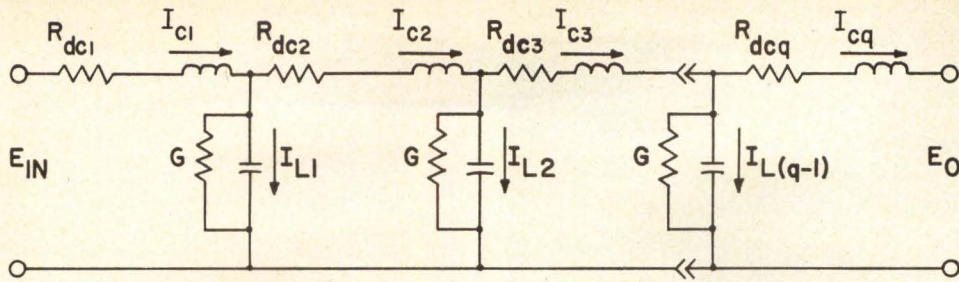

Fig. 5 Equivalent circuit for attenuation analysis.
Where I_{ck} is the current flowing through the k cell, and $R_{dc}k$ is the dc resistance of the k cell. Referring to Fig. 5, which represents the delay line, it is noticed that the current in each cell (I_{ck}) is less than the current in the preceding cell by the factor of $I_{L(k-1)}$. By assuming a linear decay in delay line current, we may set $I_{L1} = I_{L2} = \dots = I_{L(q-1)}$. Referring to Equation (9):